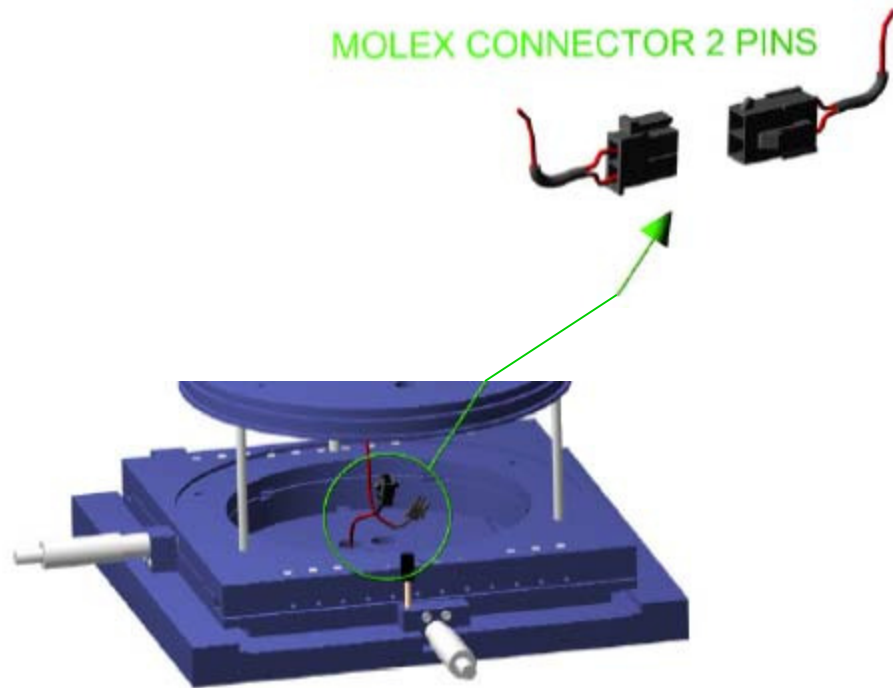

Fig.2.10 Motor connection
The next step is to check that the motor is properly connected (see Fig. 2.10):
- Make sure you connect the MOLEX connector as shown in Fig. 2.10. In case it is connected in the opposite way, the motor will approach when you want to withdraw.